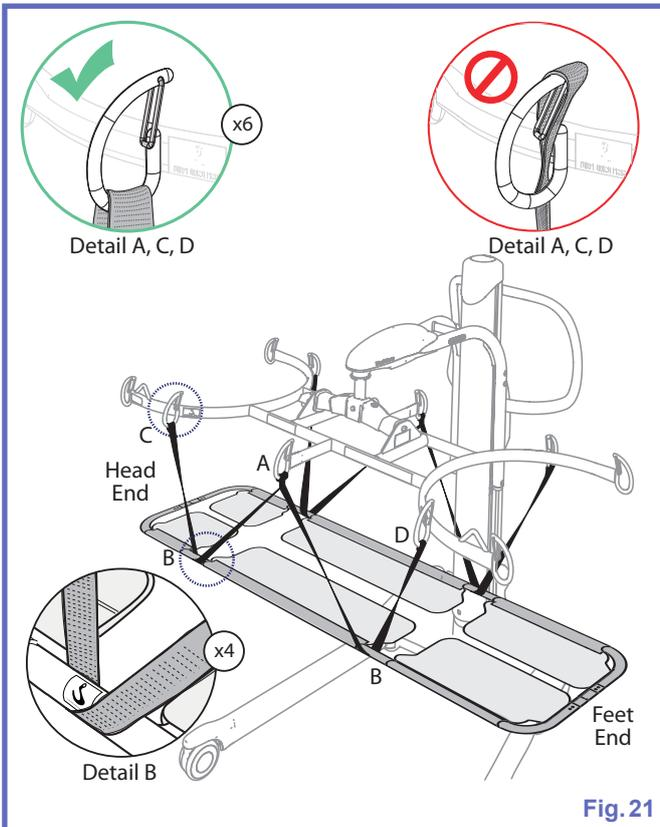

Fig. 21
- 3) Make sure both loops are securely attached to the hooks as shown in "Fig. 21", detail A.
**NOTE:** When attaching the strap to the stretcher frame, use the hooks pointed out by the "Suspension Point" labels and the two middle hooks as shown in "Fig. 21".
- 4) Route both head level straps by passing them under the *Scoop Stretcher* at the suspension points as shown in "Fig. 21", detail B. Secure the straps to the stretcher frame hooks as shown in "Fig. 21", detail C.
- 1) Route both feet level straps by passing them under the *ScoopStretcher* at the suspension points as shown in "Fig. 21", detail B. Secure the straps to the stretcher frame hooks as shown in "Fig. 21", detail D.